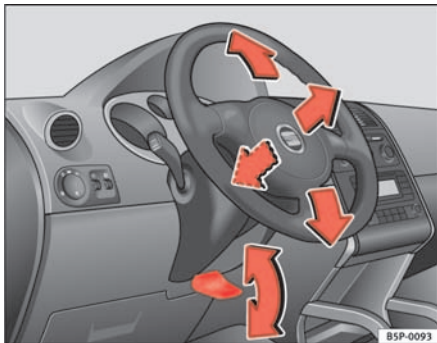

Fig. 91 Adjusting the steering wheel position
- Push the lever under the steering column ⇒ fig. 91 down ⇒ ⚠.